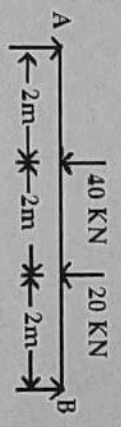

Figure 2
7. Find the maximum deflection and the maximum slope for the beam as shown in figure 2 : 15